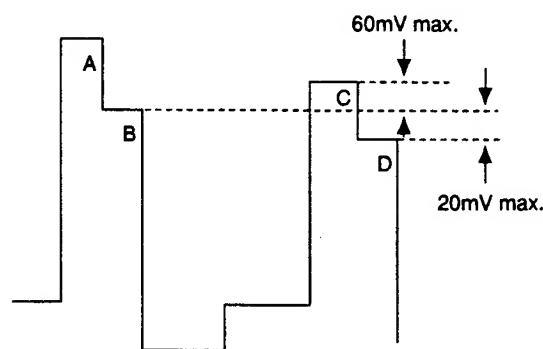

Fig. 5-32
- 2) Connect the probe of an oscilloscope to IC404 ⑩ PIN or TP401.
- 4) Adjust **[R-Y LEVEL SECAM]** so that the peaks of waveforms will be flush with each other as shown in Fig.5-32.